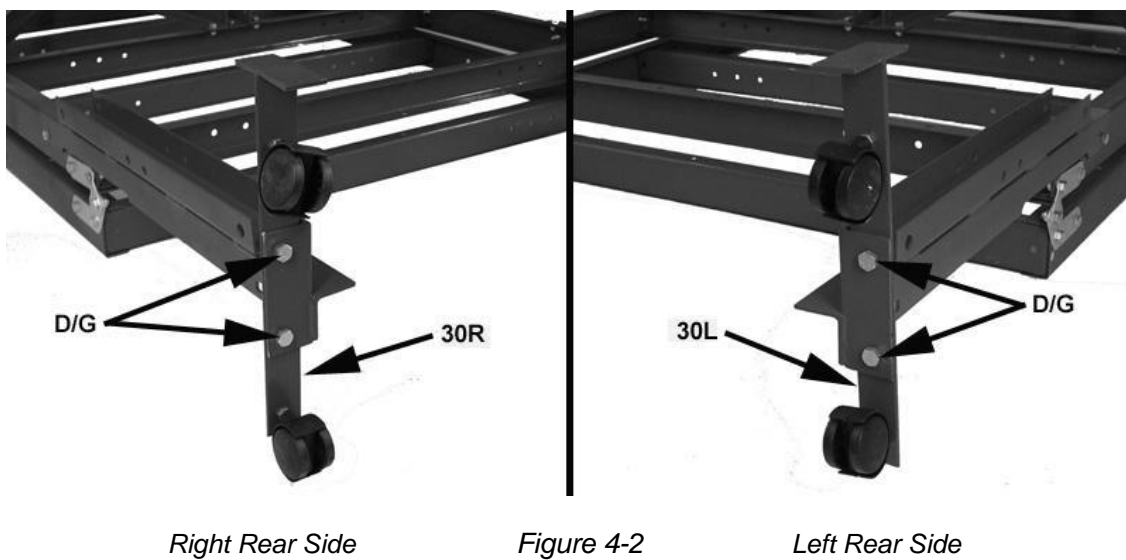

Figure 4-2
2. Connect left caster base (30L) and right caster base (30R) to left (12L) and right (12R) spring hangers with M10 x 20 bolts (D) and M10 nylon lock nuts (G). See figure 4-2.